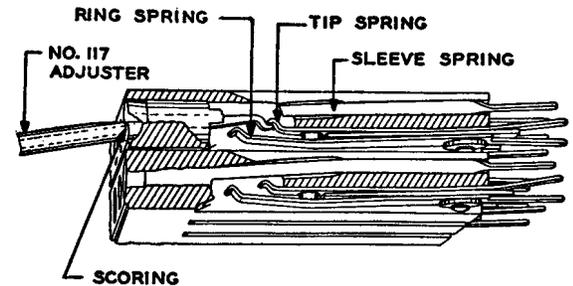

Fig. 3 – Method of Adjusting Tip Spring Up
(1) To check the No. 123B gauge with the No. 111A gauge, insert the gauge into the gauging hole and revolve the gauge through at least one complete revolution, taking care not to exert either sidewise or lengthwise pressure on the gauge.
(2) Check for cutout, using the No. 123B gauge in accordance with Section 032-350-502. If the gauge does not contact with the jack springs as indicated by the jack test set, the trouble may be due to excessive sleeve wear. Check the jack for sleeve wear with the No. 33 gauge. If the gauge enters the jack, gauge the sleeves of the other jacks in the strip. If the sleeves of several jacks are found to be outside the limits, refer the matter to the supervisor to determine whether the defective sleeves should be replaced or the jack strip replaced. If any jack sleeves are to be replaced, proceed as covered in Section 032-350-801.
(3) If there is a tip cutout, lift the tip spring slightly with the No. 117 adjuster applied at the crimp of the spring as shown in Fig. 3. When the No. 117 adjuster is inserted the proper distance into the jack, the scoring on the side of the adjuster will be flush with the face of the jack strip. Exercise care not to lift the tip spring excessively at any time owing to the difficulty in adjusting the spring downward.
(4) Insert the No. 124B gauge into the jack with a rotary motion and check that the tip spring has not been lifted sufficiently to cause a butting condition. If the gauge enters with too little resistance, make a further attempt to lift the tip spring as outlined in (3). Repeat until, from the resistance offered to the gauge in this test, it is felt that the tip spring cannot be raised much higher without causing a “butt” condition and, if a cutout is still experienced, do not attempt to adjust the tip spring any higher but replace the spring as covered in Section 032-350-801.
(5) If the check indicates a ring cutout, lift the ring spring slightly with the No. 117 adjuster applied to the crimp of the ring spring as shown in Fig. 3 for the tip spring. When the No. 117 adjuster is inserted the proper distance into the jack, the scoring on the side of the adjuster will be approximately 1/4 inch from the face of the jack strip. Exercise care not to lift the ring spring excessively at any time owing to the difficulty in adjusting the spring downward.
(6) Insert the No. 124B gauge into the jack with a rotary motion and check that the ring spring has not been lifted sufficiently to cause a butting condition. If the gauge enters with too little resistance, make a further attempt to lift the ring spring as covered in (5). Repeat until, from the resistance offered to the gauge in this test, it is felt that the ring spring cannot be raised much higher without causing a “butt” condition and, if a cutout is still experienced, do not attempt to adjust the ring spring any higher but replace the spring as covered in Section 032-350-801. Inspect the tip spring at this time and, if it shows excessive wear or if it does not have the oval hole, re-